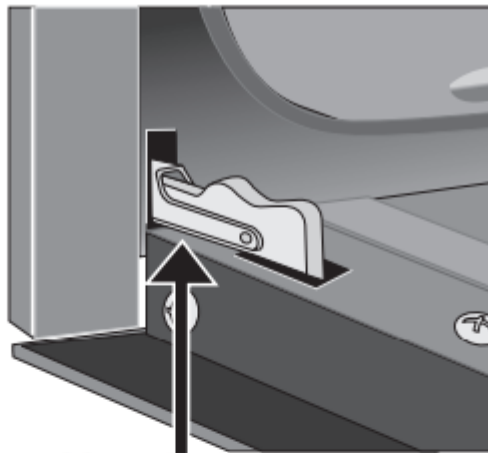
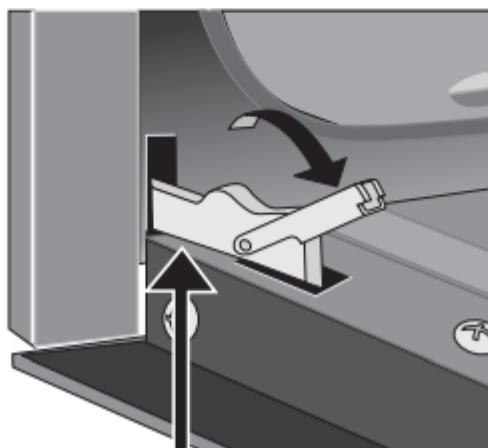

Figure 30: Door hinge locked
Figure 31: Unlocking door hinge
2. Pull up the lock located on each hinge support toward front of the oven until the lock stops. You may have to apply a little upward pressure on the lock to pull it up (Figure 30 and Figure 31).